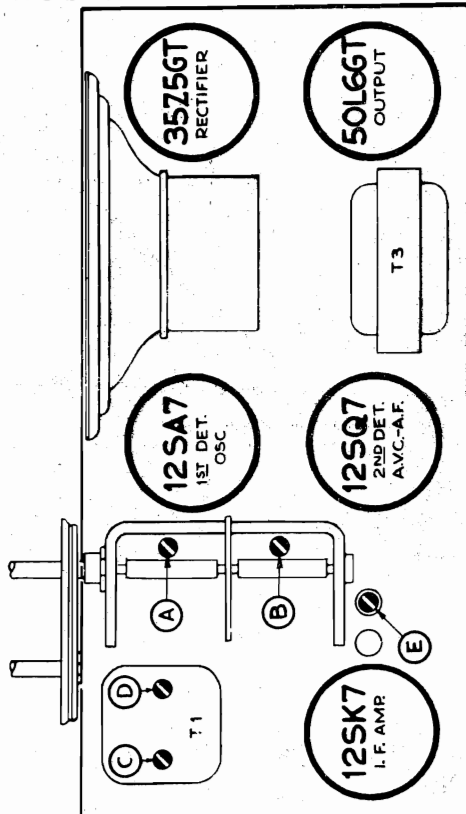

FIG. 3--PARTS LAYOUT--Top View
- (g) Adjust the trimmers on the first I-F transformer (Illus. C, D, Fig. 3) for maximum output.
- (d) Adjust oscillator trimmer condenser (Illus. A, Fig. 3) for maximum output.
- (d) Adjust the antenna trimmer (Illus. B, Fig. 3) for maximum output.